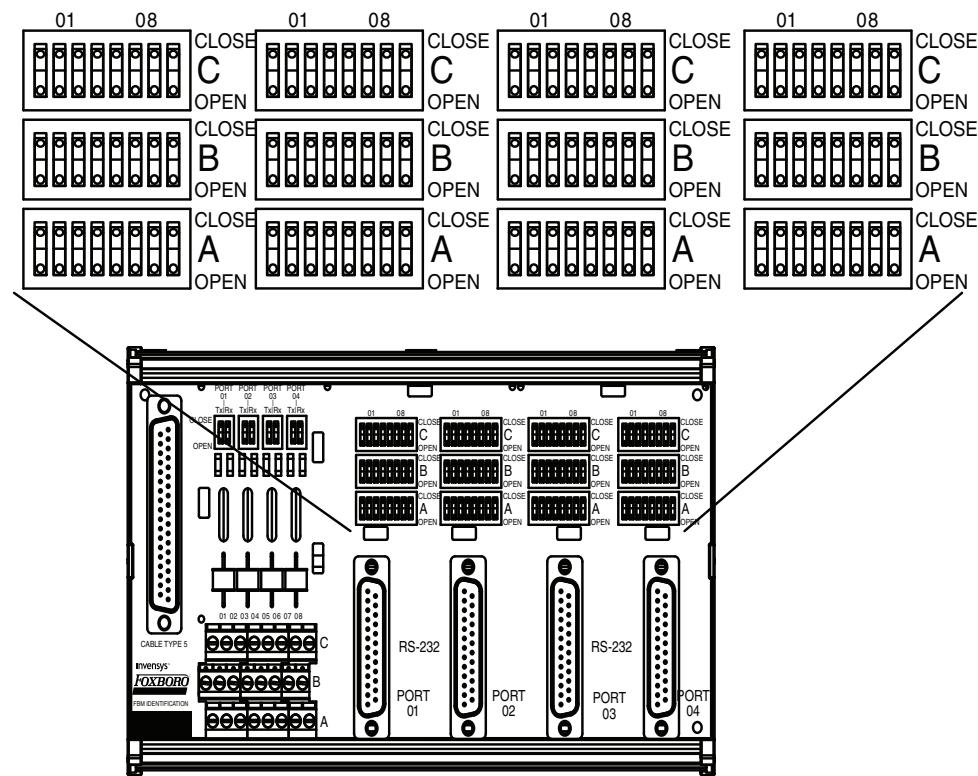

Figure 4-15. FBM230 TA RS-232 Switches
- g. Set the RS-232 switches for the channel such that the C5 and C6 switches are in the CLOSED position and the rest of the switches are in the OPEN position (see Figure 4-15 on page 39).
- e. Set the RS-232 switches for the channel such that the C5 and C6 switches are in the CLOSED position and the rest of the switches are in the OPEN position (see Figure 4-15 on page 39).
Figure 4-15 shows the 24 switches in four groups (PORT 01 to PORT 04). Each port has 3 switch banks with a total of 24 individual switches per port. Each switch bank A, B, and C has 8 switches labeled 01 to 08. The designator CLOSE indicates that the switch is closed, when the switch is in the pressed down position.
The TA has 24 individual switches per port that are set open or closed depending on the device, and the type of cable. The switch settings for each of the four ports are identical. However, the user-configured port usage (RS-422 or RS-485 versus RS-232) for each port and the cable connected to the port, determines the required switch settings for each port. Figure 4-15 shows the